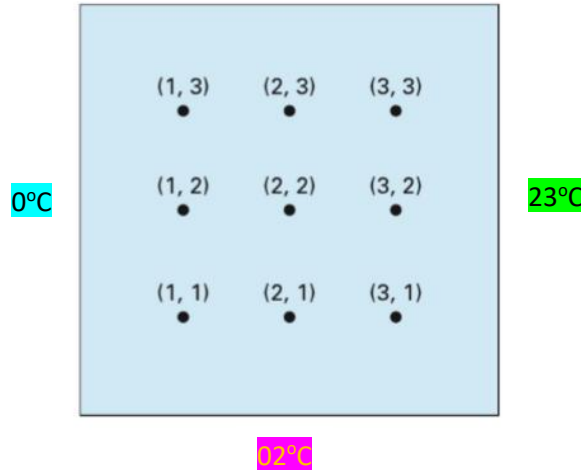

Figure P.3.1. Heated Plate
3. Use Gauss-Seidel Method and the code that you have developed in question no. 1 to solve for the temperature of the steady state heated plate in figure P.3.1. Do the iteration with the error to $\epsilon_s = 1\%$. The temperatures on all four sides are stated by the numbers on the part of your NIM. For example, NIM 13623020 will give these boundary condition. **Plot your results of temperature distribution on the plate.**